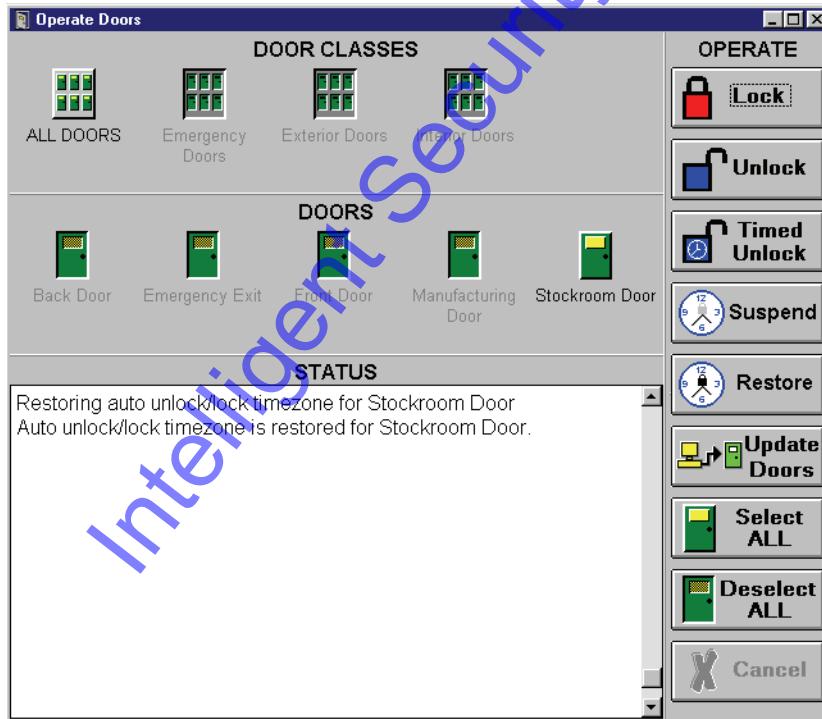

Figure 6-22: Restore Auto Unlock/Lock on a Single Door
5. To proceed with the Restore, click on the  **Yes** button. The resulting window should look similar to Figure 6-22.